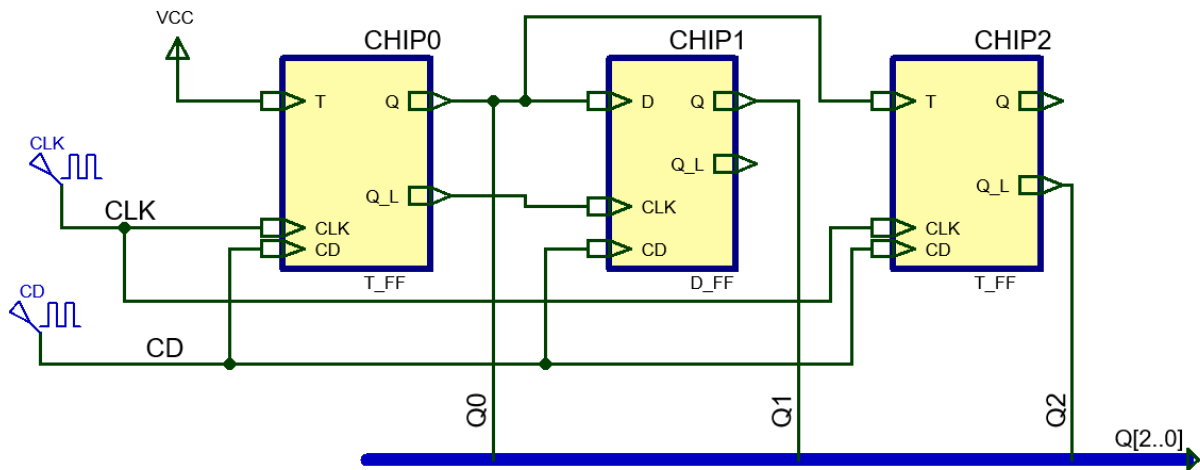

Fig. 1. Circuit based on flip-flops.
- Analyse the circuit in Fig. 1 using a timing diagram and find the binary codes available in the output vector Q(2..0).